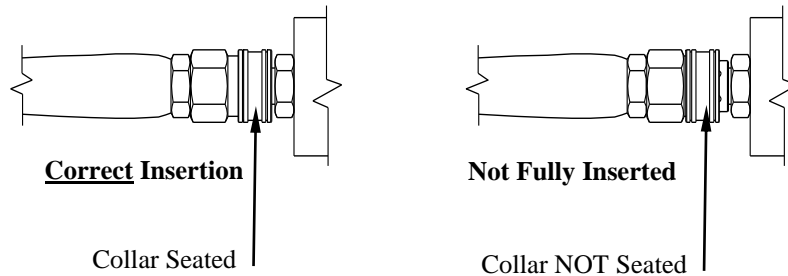

Figure 7b
3. Release the collar, making sure it springs back and re-seats to its original (non-retracted) position. (Figure 7b). *Check the connection by pulling on the hose to ensure a positive connection.*